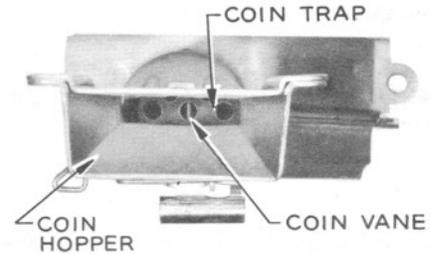

Fig. 10 — Position of Vane When Relay is Centered
**4.13** When mounting relay, it shall be centered so that with operating arm in its normal vertical position fork slot engages vane stem and holds coin vane in a vertical position. Full thickness of coin vane shall be visible in the center hole of coin trap, as shown in Fig. 10. If relay cannot be centered, replace relay. If replacing relay cannot be centered, replace coin collector.